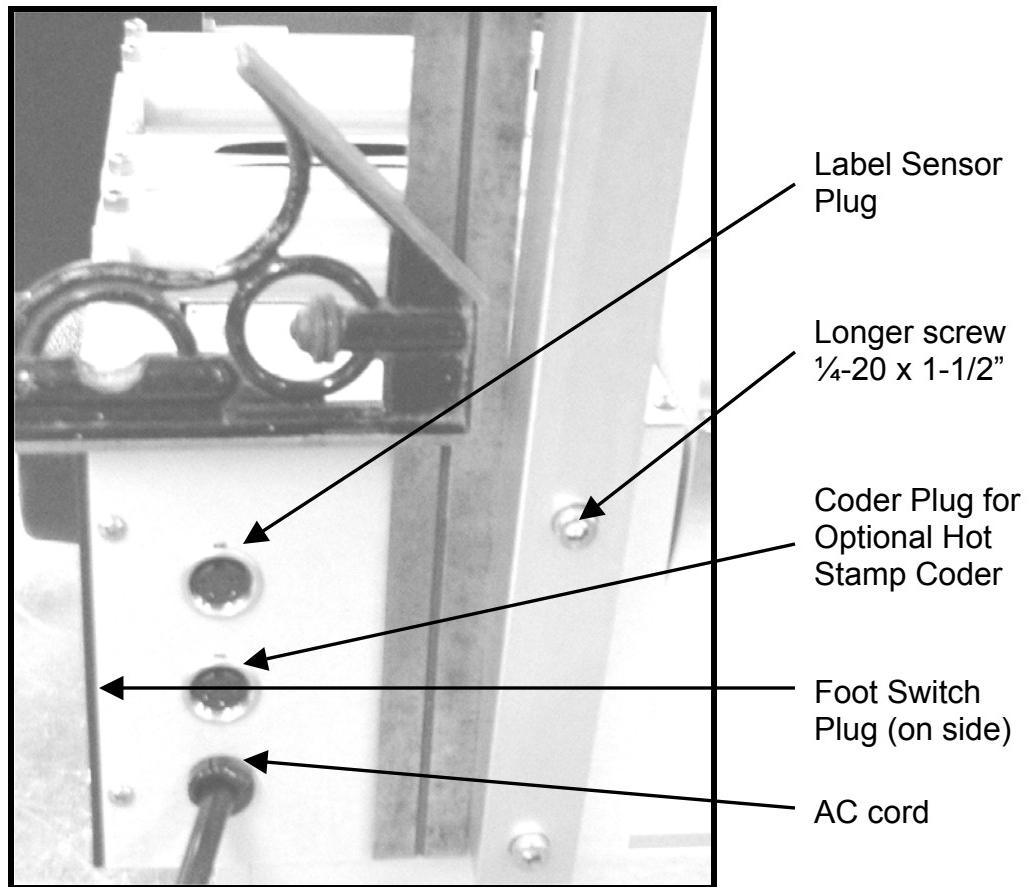

Fig 2
4. Using a Square, mount the Unwind Assembly as shown below in Fig 2. The Long screw ($\frac{1}{4}$ -20 x 1-1/2") goes in the top hole. The shorter screw ($\frac{1}{4}$ -20 x 1-1/4") is in the bottom.